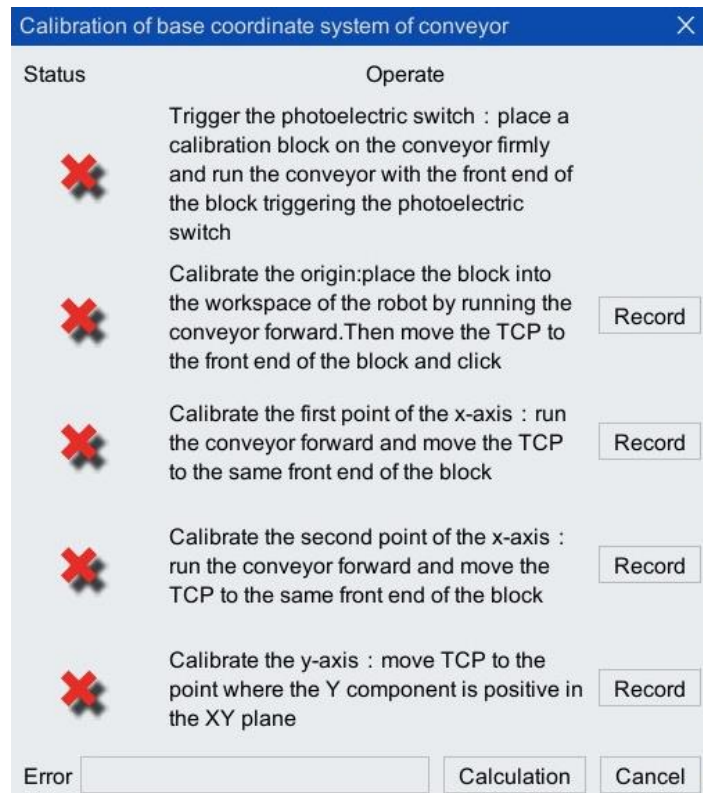

Figure 5-5 Conveyor belt base coordinate system calibration interface
Step3. Enter the [Calibration of base coordinate system of conveyor] interface, as shown in Figure 5-5. The calibration steps are as follows:
- Step4. The interface needs to record five points to complete the calibration. Follow the operating instructions in Figure 5-5 to complete the calibration of the base coordinate system. For the scene of the work object movement during the calibration process, please refer to Figure 5-6. After successful recording, the × in front will change to ✓.